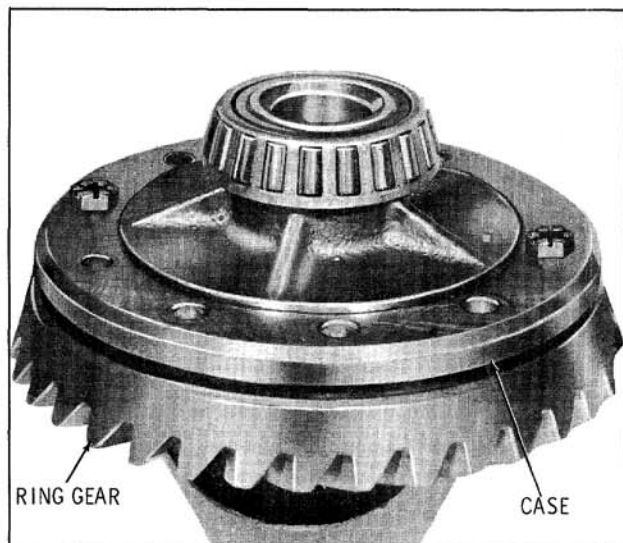

Fig. 10-29 Installing Ring Gear
5. After making certain that mating surfaces of case and ring gear are clean and free of burrs, thread two bolts into opposite sides of ring gear; then install ring gear on case. (Fig. 10-29) Install NEW ring gear attaching bolts just snug. NEVER REUSE OLD BOLTS.